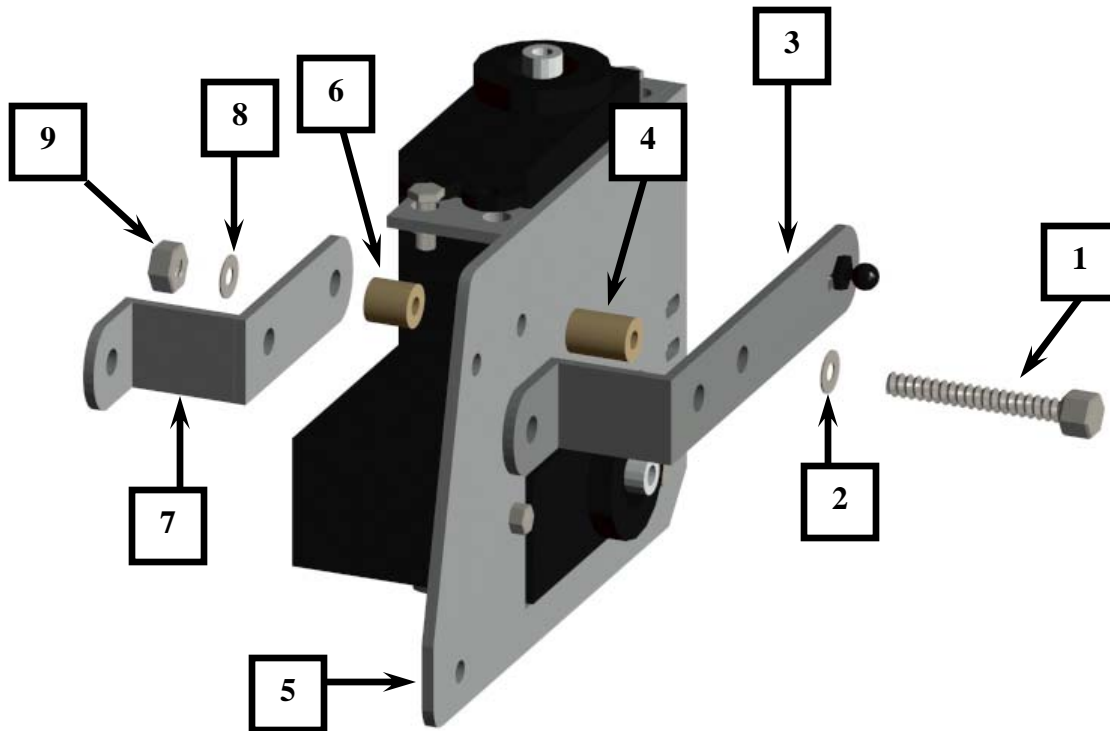

Figure 11: Leg Actuator Assembly
7. Use the close-up diagram in Figure 11 for the complete assembly sequence.